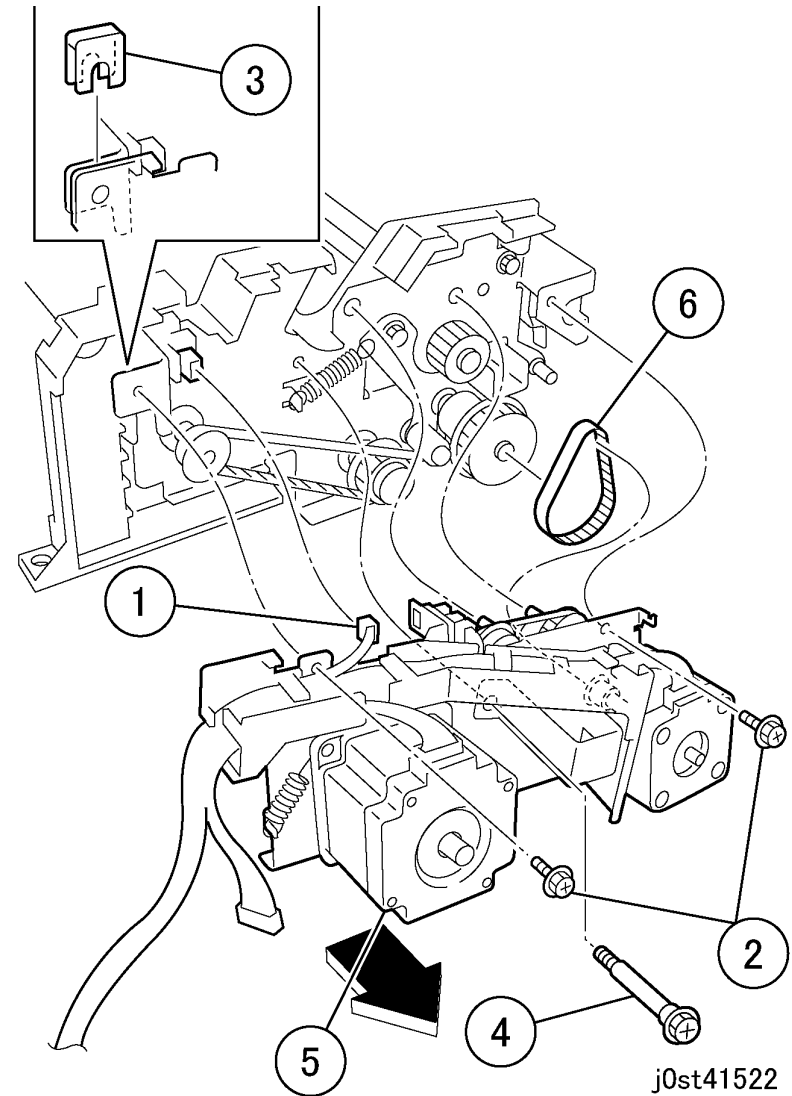

Figure 2 Removing the Motor Unit
7. Remove the Motor Unit (Figure 2).